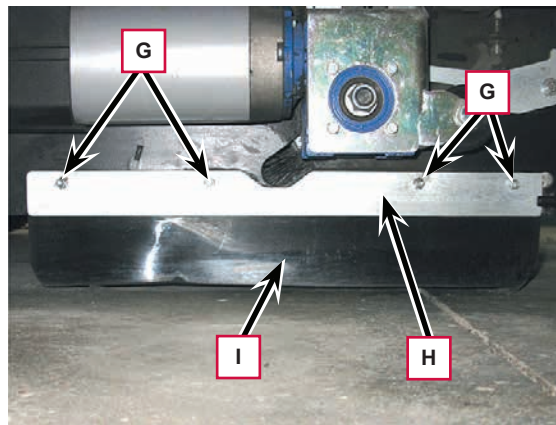

Figure 13
5. Unscrew the nuts (G, Figure 13) and remove the strap (H).
6. Remove the skirt (I).
7. Install the skirt (I) and the other removed components in the reverse order of removal, and note the following: